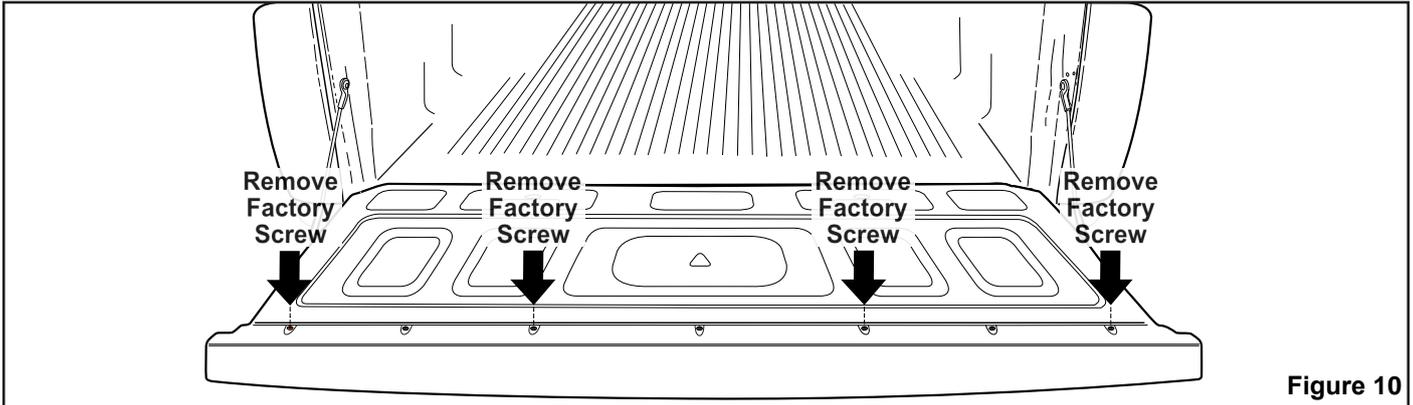

Figure 10
- Place Tailgate Rail in place, aligning it to the 4 screw holes that were removed in Figure 10 and use 4 M6 screws to attach the Tailgate Rail in place.